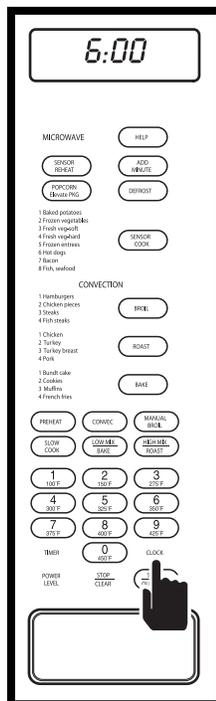

Figure 3-48. Press CLOCK Key
4. Press CLOCK key, “**ENTER - COOKING - PROGRAM**” will flash on display (See Figure 3-48).